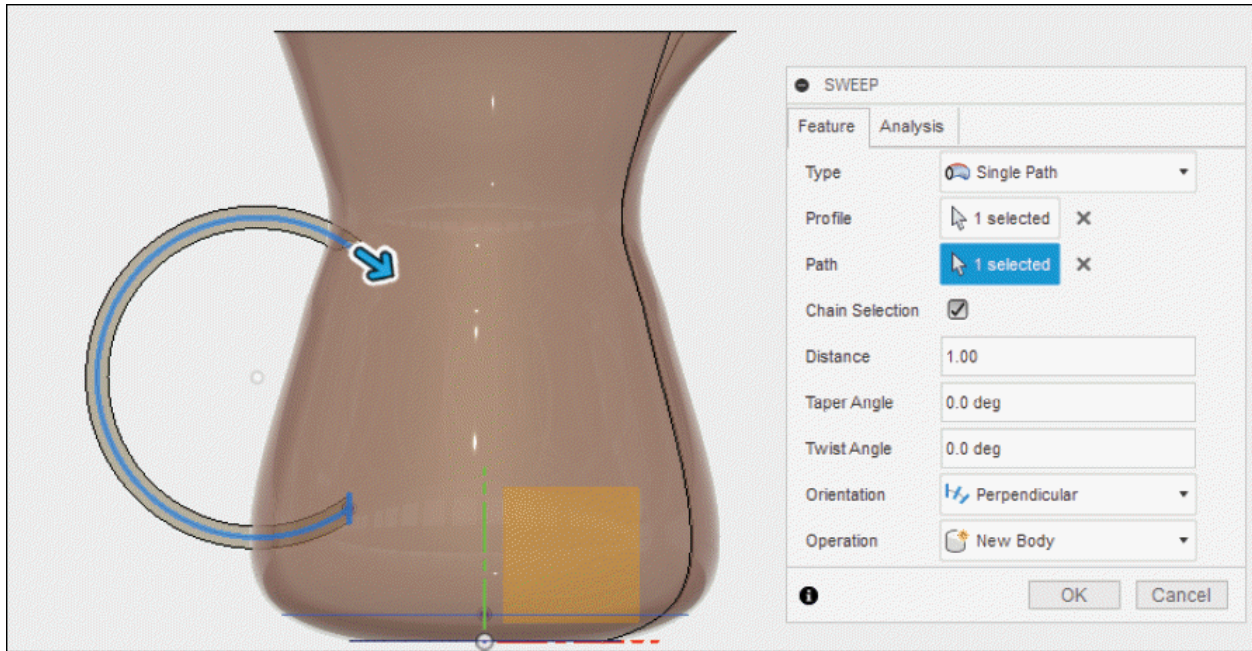

Figure-89. Creating sweep feature for jug
- Click on the **Select** button of **Path** section and select the recently created arc; refer to Figure-89.